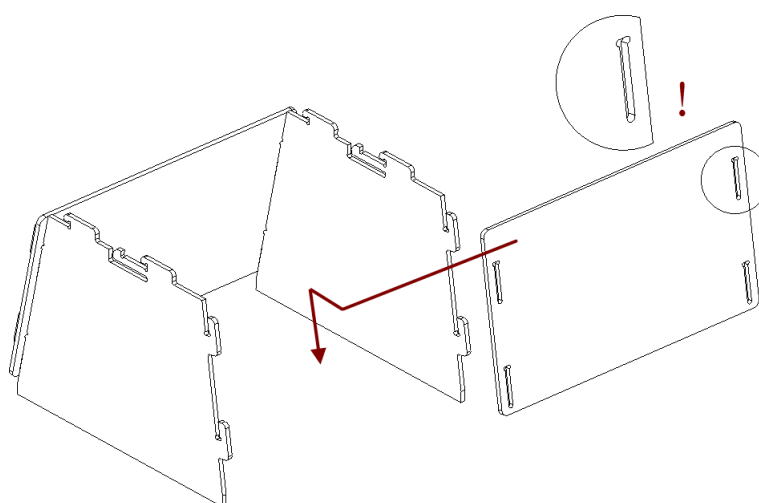

Figure 145: Assembling the back wall.
2. Install the back wall in the same way (see Figure 145).